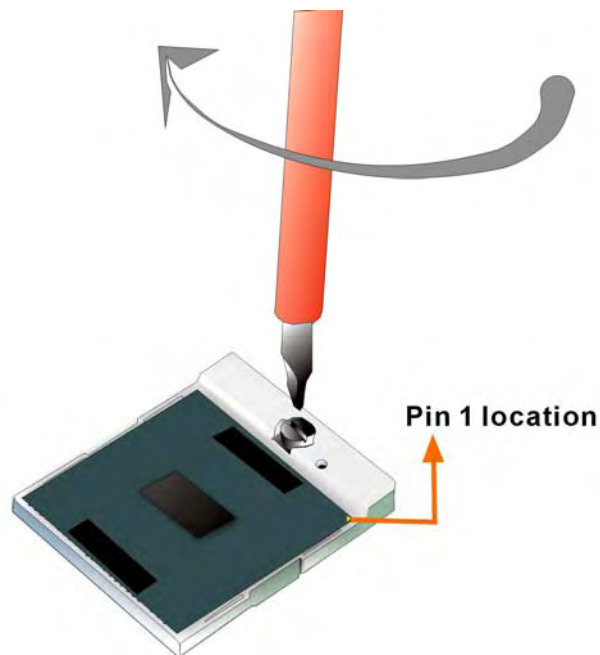

Figure 5-2: Lock the CPU Socket Retention Screw
- Step 7: Lock the retention screw.** Rotate the retention screw into the locked position. See **Figure 5-2**.